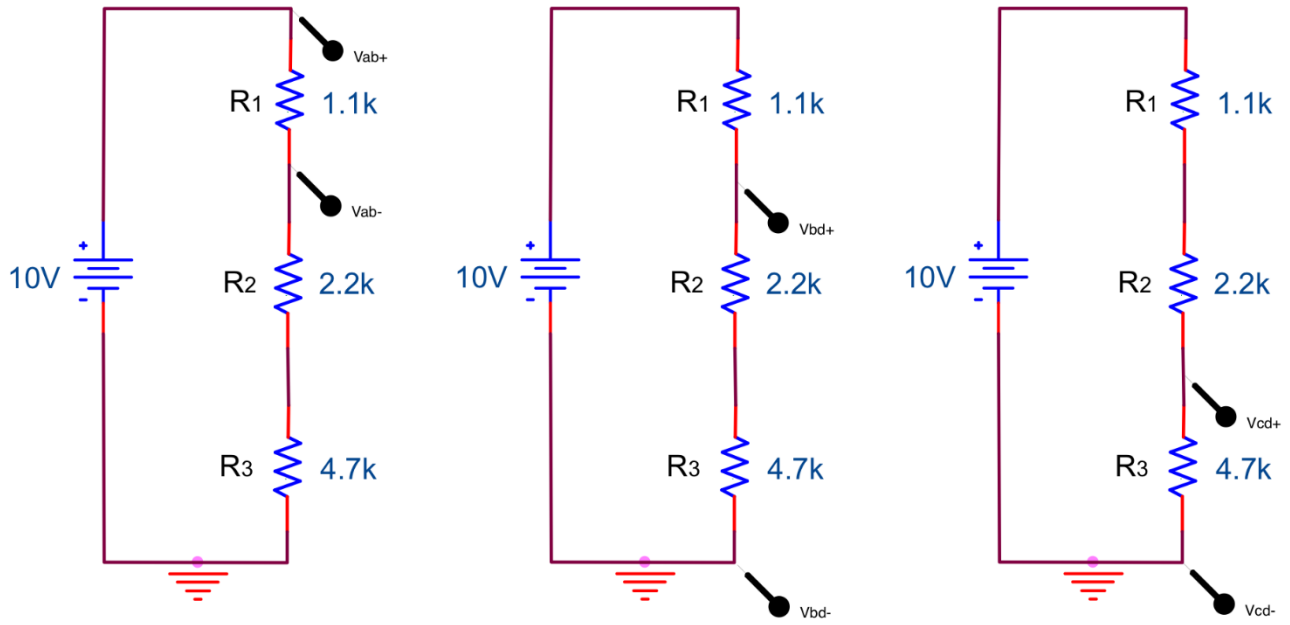

Figure 5.11
2. Measure and record V_{AB} , V_{BD} and V_{CD} as depicted in Figure 5.11.